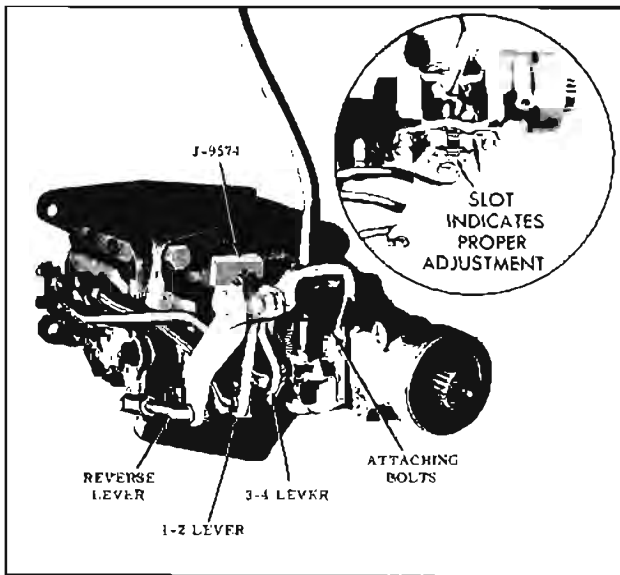

Fig. 11-261 Shift Linkage Adjustment
3. Install tool J-9574, Linkage Gauge Block, in the notch of the retainer bracket as shown to check shift rod clevis adjustments. (Fig. 11-261)